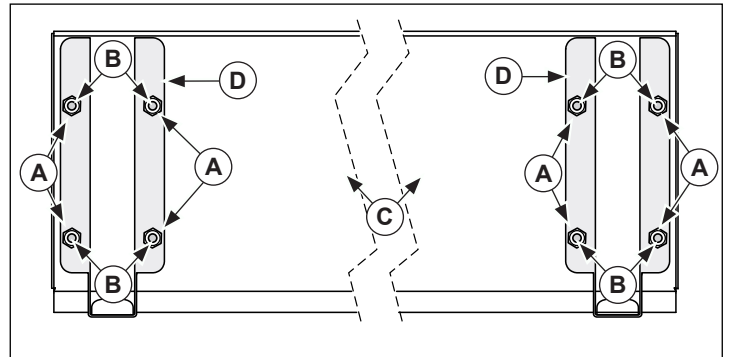

Figure 3. Plate Rest and Bracket Installation
1. Turn the plate rest (C) so the weld nuts (B) are exposed. See Figure 3.